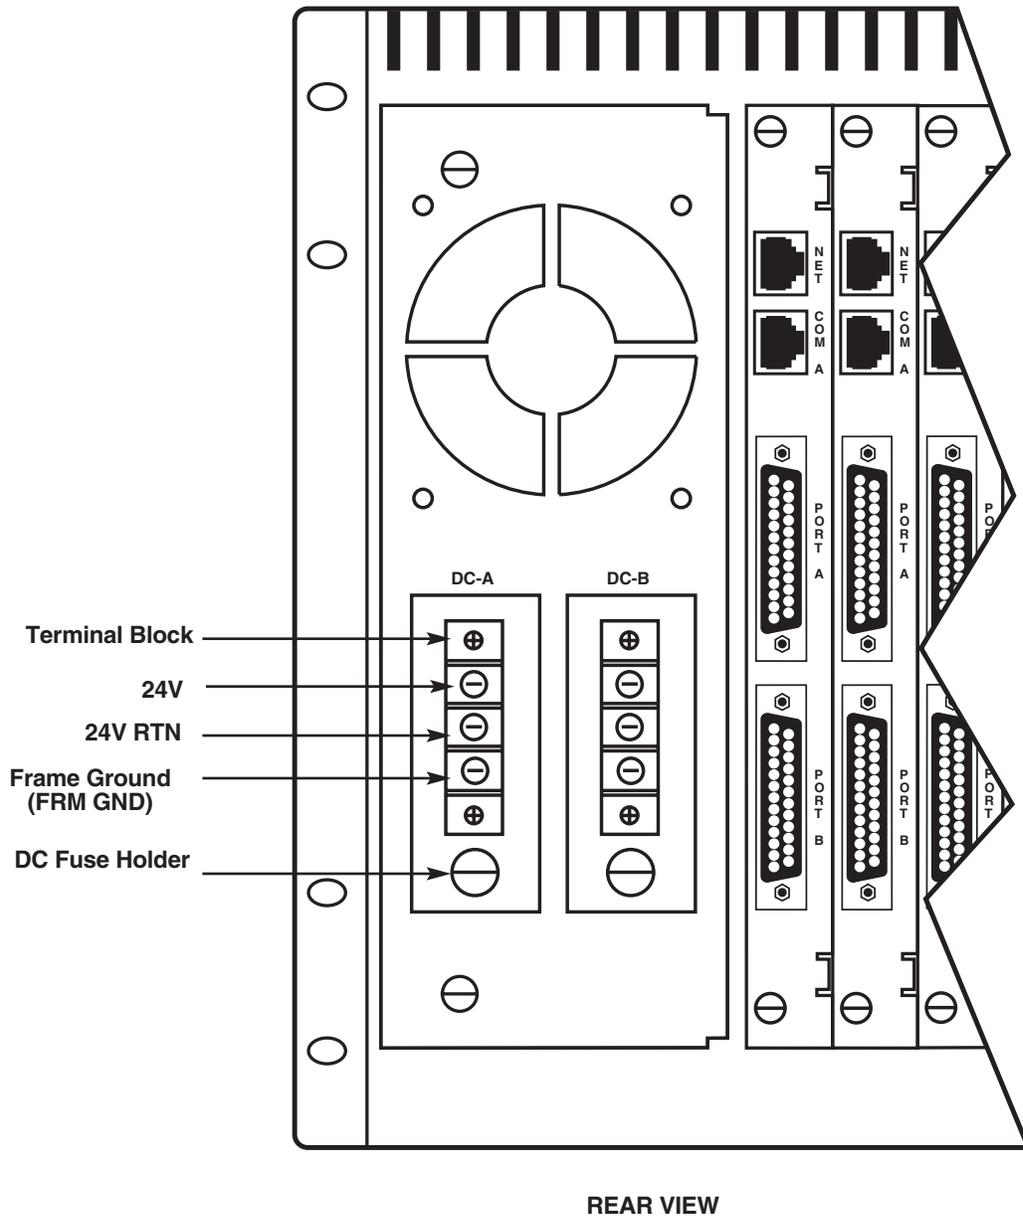

Figure 3-7. Powering Up the +24 VDC Chassis.
2. Slide the wire carrying +24 VDC under the terminal block screw labeled 24V. Tighten the screw. See Figure 3-7.
3. Slide the wire carrying Ground under the terminal block screw labeled 24V RTN. Tighten the screw. See Figure 3-7.
4. Slide the wire carrying Frame Ground under the terminal block screw labeled FRM GND (Frame Ground). Tighten the screw. See Figure 3-7.